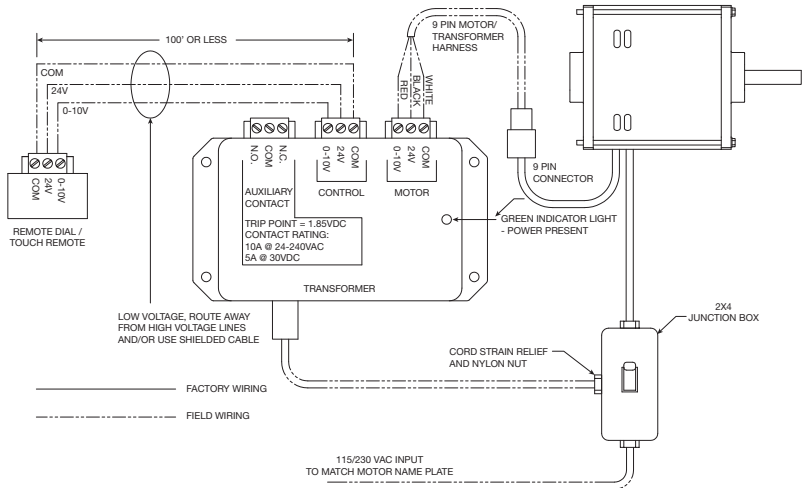

Figure 5 — Remote Dial and Touch Remote
3. Run a 3-wire control cable from the remote speed control to the transformer mounted to the fan. The maximum distance from the fan to the speed controller is 100 feet. Connect 24V, COM and 0-10 terminals on the transformer and remote speed control. See Figure 5 for wiring diagram.